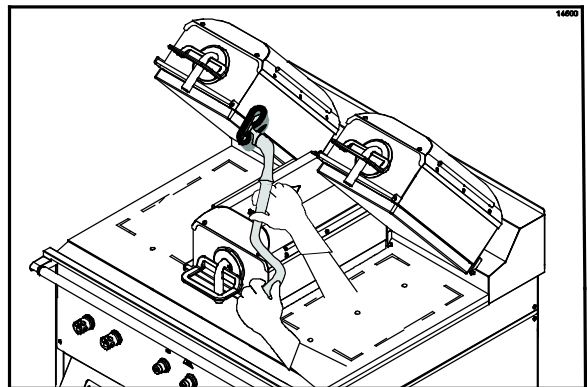

Figure 53
22. Apply grill cleaner to the inner edges of the right and left platens. (See Figure 53.)